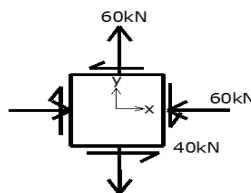

Fig. 2
- (OR)
b) A cantilever 2.4 m long is loaded as shown in fig.2 Calculate the slope and deflection at the free end if the section is rectangular, 120mm x 240mm. **7M**
3. For the state of stress shown in Fig. 2, determine the principle stresses, maximum shear stress clearly show the planes on which these stresses act. **14 M**